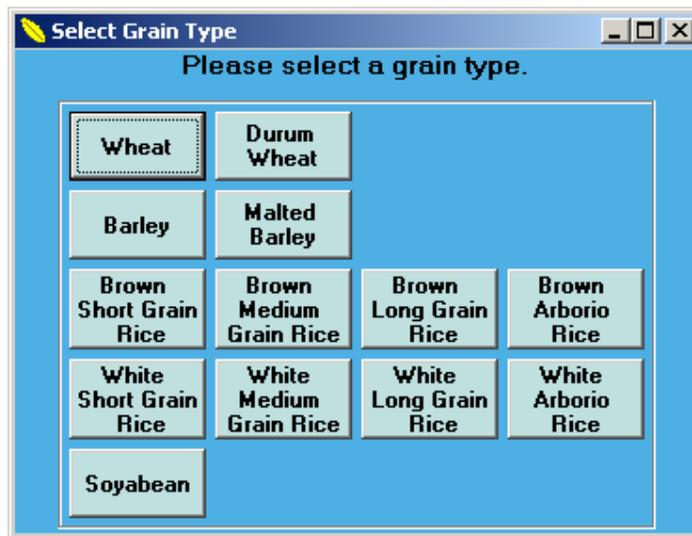

Figure 2: Grain Selection Screen
1. Open SeedCount and select the grain type you are testing from the Select Grain Type screen (Figure 2). Grain types authorised for your SeedCount instrument display in bold. Those not authorised are grayed out.